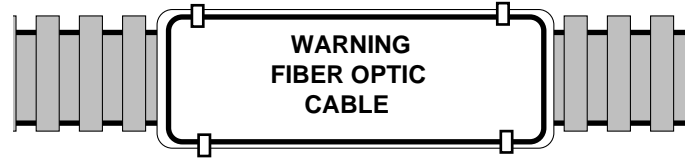

Figure 20 Warning sign on innerduct
**6.26** Fiber optic warning signs should be placed on all innerduct containing fiber optic cable (Figure 20). Warning signs can help prevent damage resulting from the cable being mistaken for something else.